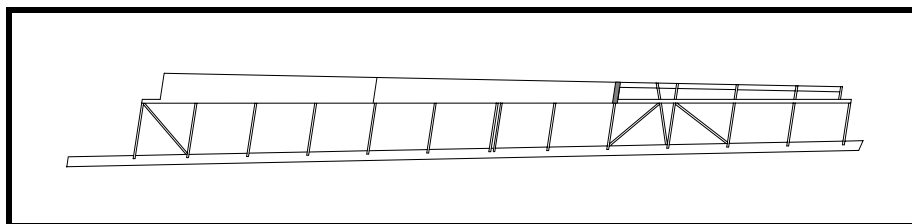

Figure 23
- ❑ Install the upper leading edge skin between Sta. 6 and 10. See Figure 23. Scarf for the joint for the next outboard skin, but do not scarf for the trailing edge skin.